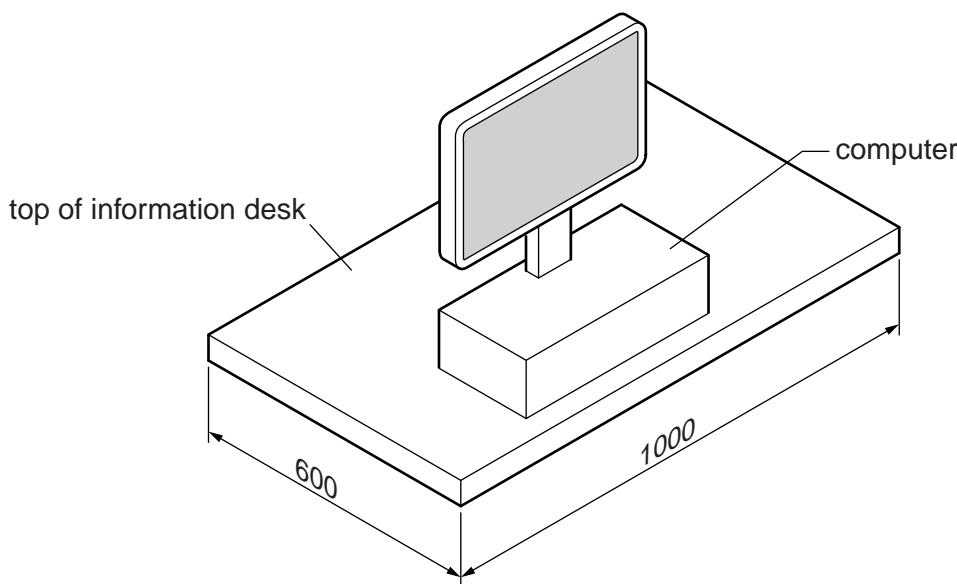

Fig. 9
- 7** Fig. 9 shows an incomplete design for an information desk which will be used in a hotel's reception area.